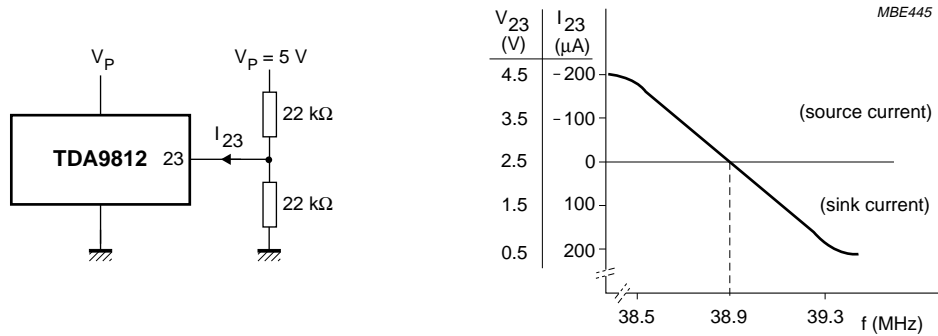

Fig.12 Measurement conditions and typical AFC characteristic.
14. To match the AFC output signal to different tuning systems a current source output is provided. The test circuit is given in Fig.12. The AFC-steepness can be changed by the resistors at pin 23.